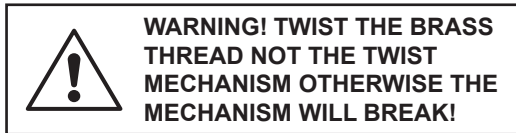
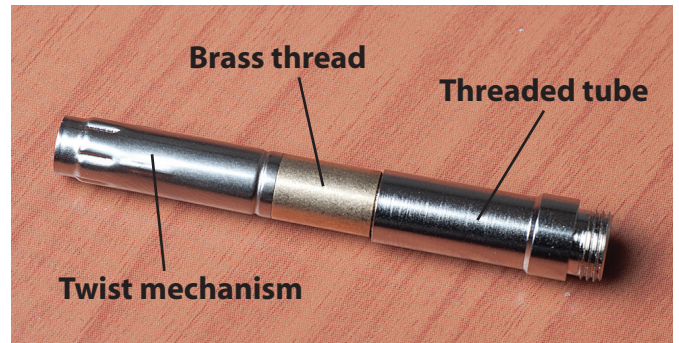

Fig 1
Fig 2
1) Before assembling the pen take the twist mechanism assembly out of the bag, (see fig 1) and twist the end (a) back and forth to lubricate the mechanism. (See fig 2)